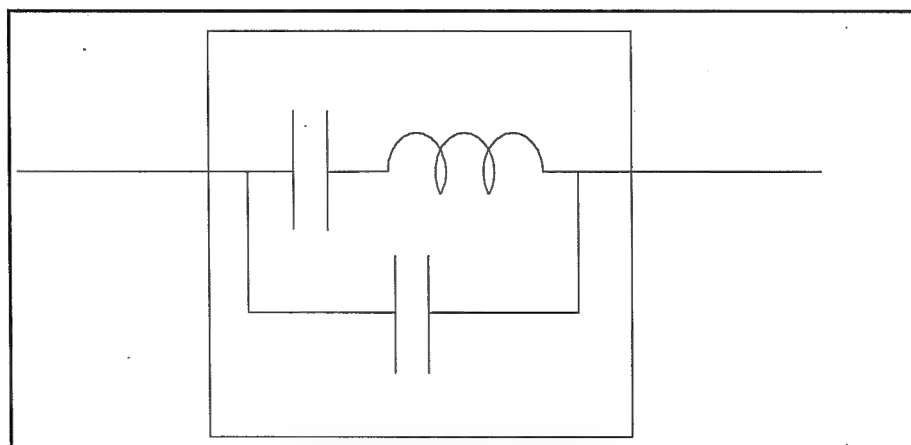

Figure 11 - Tuning unit F2
2) **Tuning unit F2 (V1 or V2)** (fig.11)